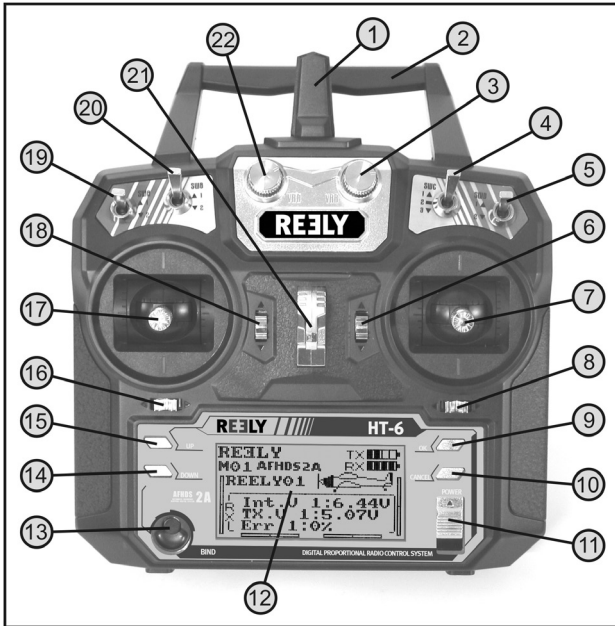

Figure 1
The control stick for the elevator/nod and aileron/roll function (see figure 1, item 7) must be in the middle position. The control stick for the rudder/tail and throttle/pitch functions (see figure 1, item 17) must be in the middle position as well or must be pushed into the bottom-most position (motor off).
Now switch on the transmitter using the on/off switch (see fig. 1, item 11).
If one of the four toggle switches (see figure 1, items 4, 5, 19 and 20) is not in the front position, and if the control stick for the throttle/pitch function is not in the bottom position, warning sounds are emitted at activation and the corresponding note is displayed.